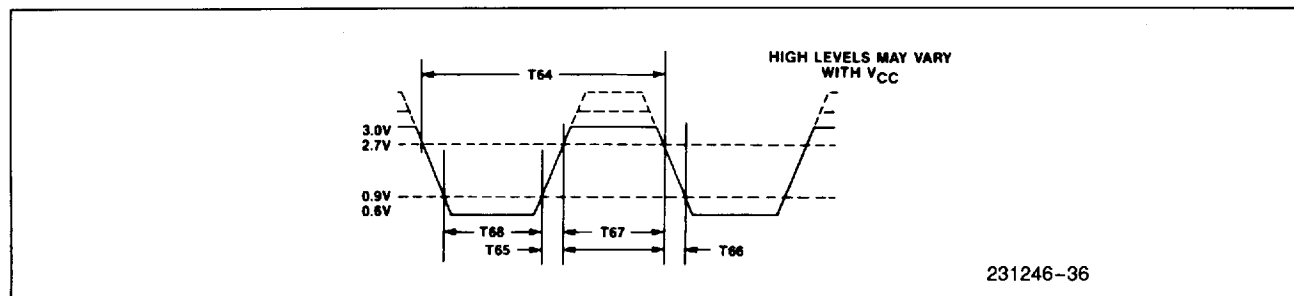

Figure 35. $\overline{\text{Rx}}\text{C}$ Input Voltage Levels for Timing Measurements
15. 82C501 compatible levels, see Figure 35